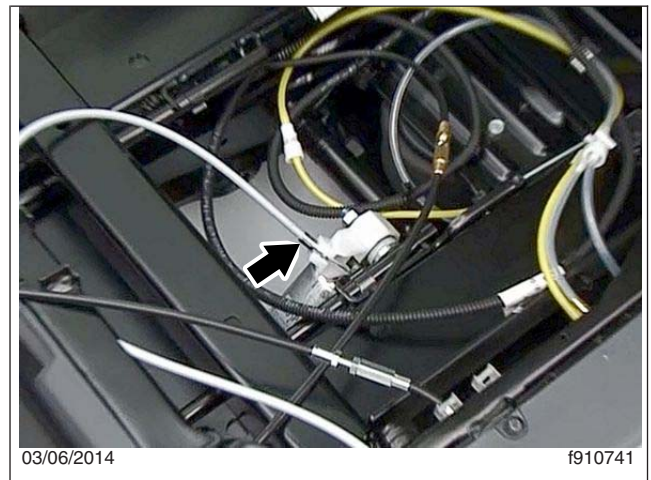

Fig. 9, Shock Absorber Control Cable
2. Disconnect the shock absorber control cable; see **Fig. 9**.
3. Attach the end of the cable to the shock absorber. See Fig. 9.